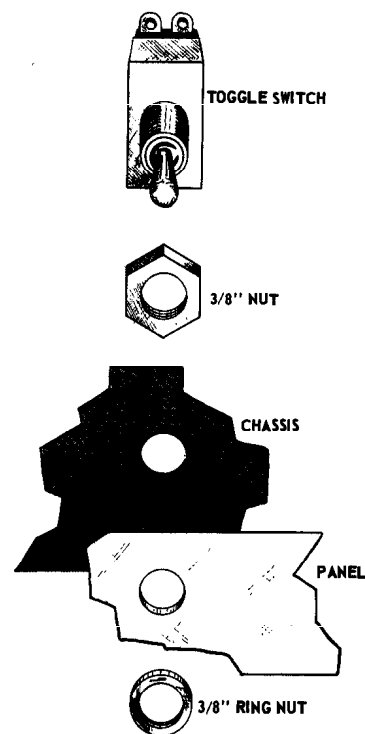

Figure 12.
- See Fig. 12 for complete mounting details.